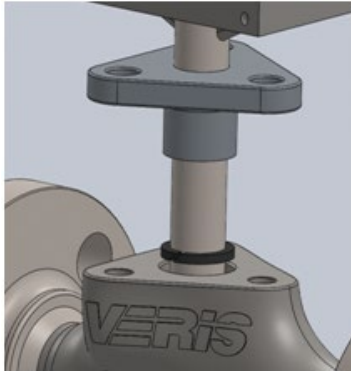

Figure 6. First Packing Ring Installation
- Locate one packing ring as shown (See Figure 6). It may be necessary to slide the triangular shaped follower next to the sensor head and temporarily attach it with a piece of tape or wire to hold it away from the body and allow both hands to be used while installing the packing rings.